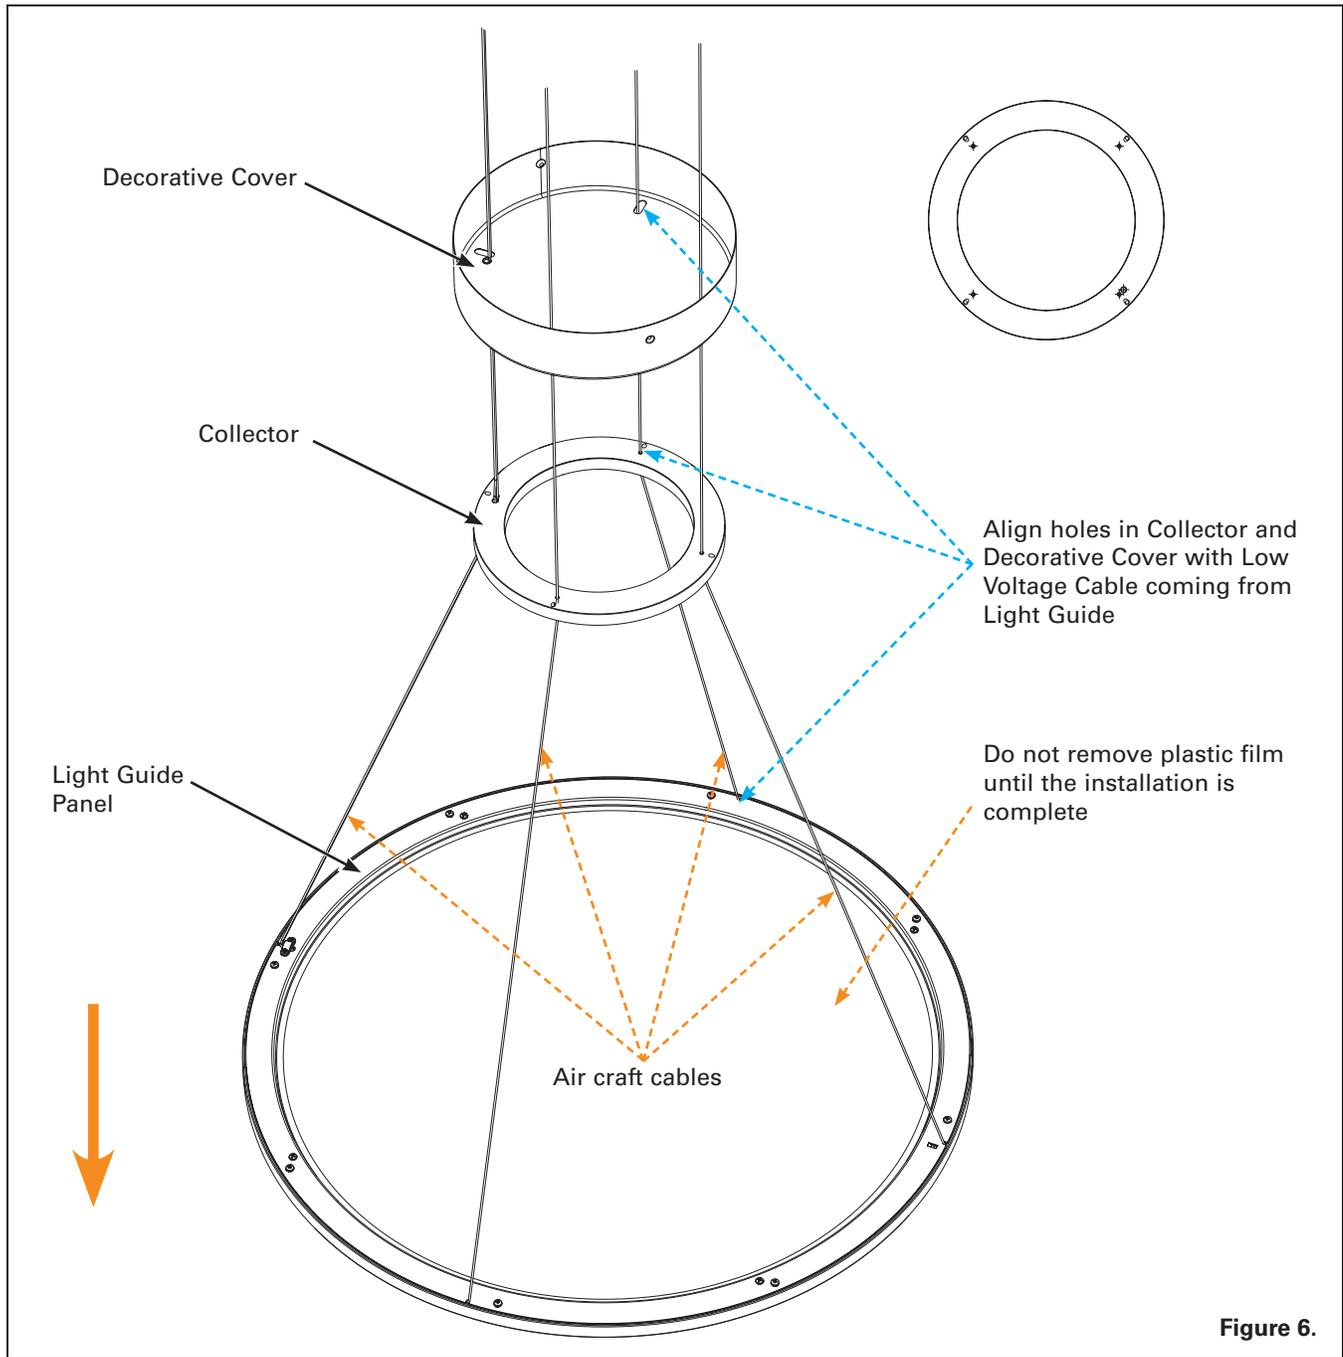

Figure 6.
Step 4 Take the four Air Craft Cables and Low Voltage Cables and feed them all the way through the Collector and Decorative Cover. Make sure to orientate the Collector and Decorative Cover so the Low Voltage Cable feeds through the correct features in the parts. The Low Voltage Cable will also need to orientate with the hole in the Driver Compartment Cover in the ceiling. Figure 6
Step 5. Rest the Collector and Decorative Cover on the Light Guide Assembly (Do not remove protective film until installation is complete.) Figure 6